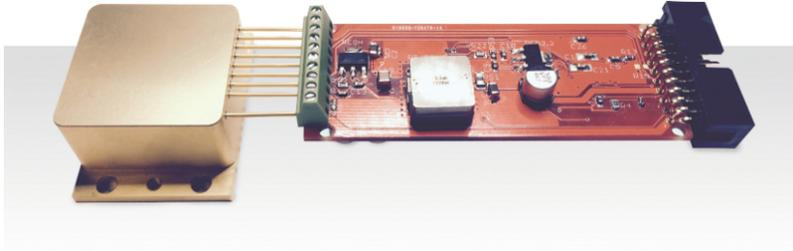

Figure 5.7.: S-2 OEM configuration with HHL.
- The S-2 pulser can be shipped as a bare circuit as shown in Fig. 5.7 for integration, or integrated in a 75 mmX42.75 mmX22 mm eloxed aluminium box for laboratory usage.